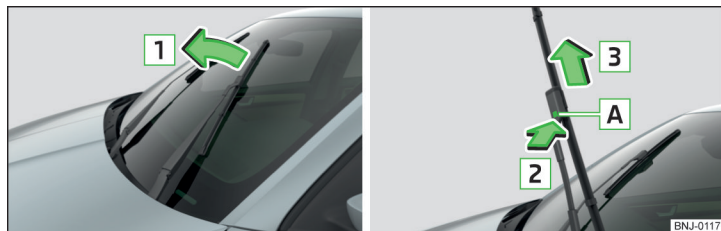

Fig. 288 **Changing the front windscreen wiper blade**
- › Lift the wiper arm from the window in the direction of the arrow **1** » Fig. 288.